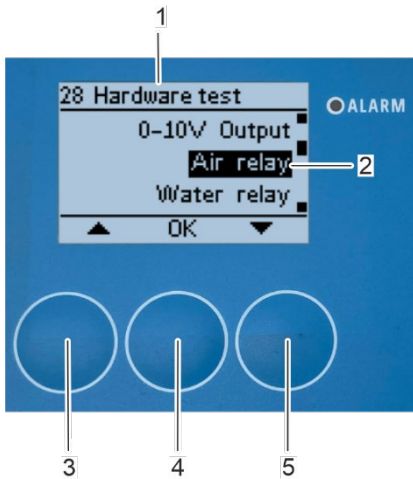

Fig. 145: Open submenu "air relay"
⇒ The “28 Hardware test” submenu appears again on the display (Fig. 145/1) and the rotor slows down to a standstill.
1. Select the "Air relay" submenu (Fig. 145/2) with the arrow keys [up] (Fig. 145/3) and [down] (Fig. 145/5).
2. Confirm the selection with [OK] (Fig. 145/4).